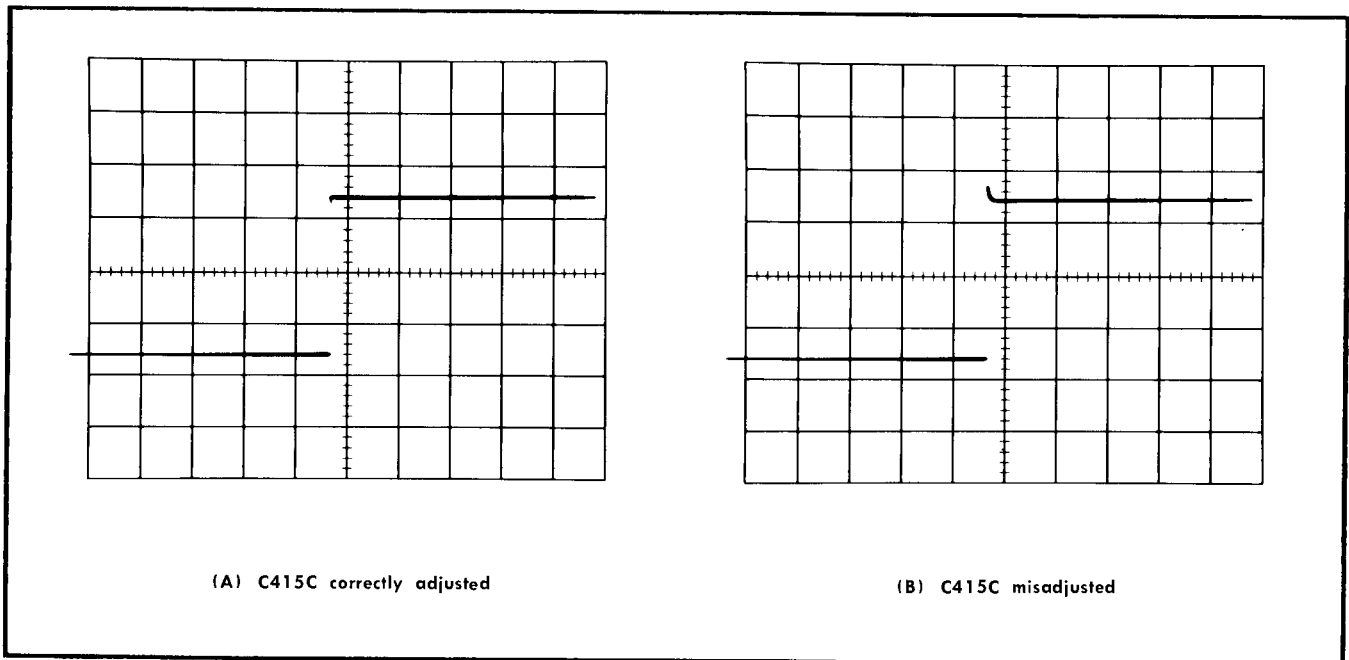

Fig. 6-16. Typical displays, Vertical Amplifier attenuator compensation adjustments; 1 kHz square-wave input; sweep speed, 2 milliseconds/cm.
- f. Check—Optimum square-wave with flat top (see Fig. 6-16 A and B for typical displays).
- p. Check—Optimum flat top on square-wave display as in Fig. 6-16 (B).